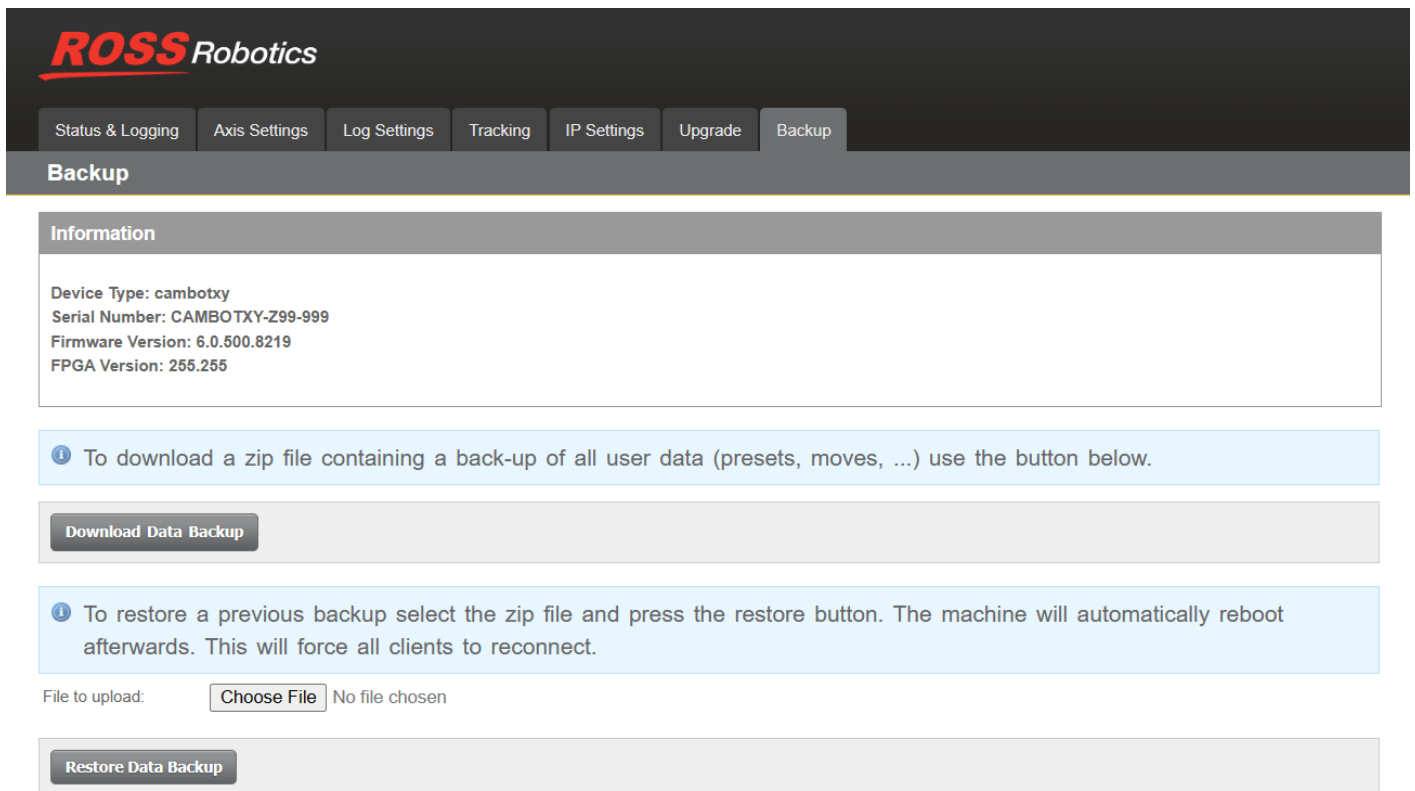

Figure 2 - Backup Tab Interface
4. Select **Download Data Backup** to download and save a backup file. Refer to **Figure 2**.